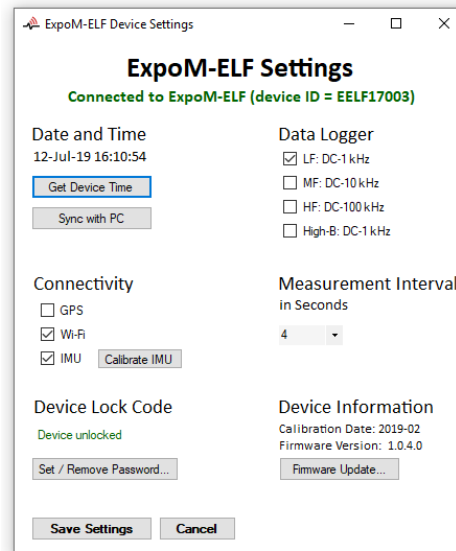
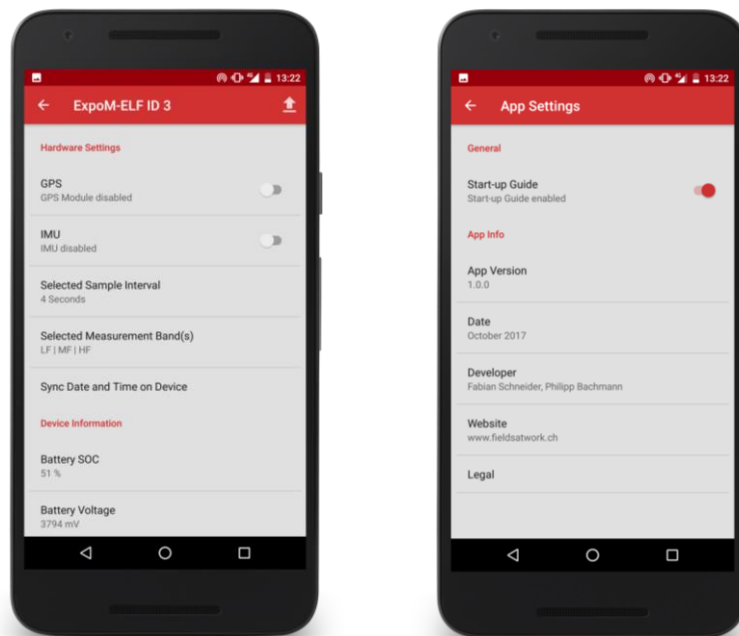

Figure 5: Device settings window
Figure 12: Device settings (left) and app settings / information dialog (right)
The device settings dialog (Figure 5) can only be changed when a device is plugged in and successfully connected to the ExpoM - ELF Utility.
- 1) WiFi must be enabled on the corresponding ExpoM-ELF device using the PC utility (Figure 5).
The device settings view (Figure 12, left) allows to modify the most important measurement settings of the device when it is operated in logger mode. It provides the same functionality as the device settings dialog of the PC utility (Figure 5) but with a reduced number of options. The option *Sync Date and Time on Device* synchronizes the internal clock of the ExpoM-ELF device with the smartphone clock. On the bottom of this view, the current state of charge (SOC) of the device's battery is shown.
The app settings view (Figure 12, right) allows to disable the automatic display of the setup guide when the app is started. In addition, it contains all relevant information about the installed app revision.